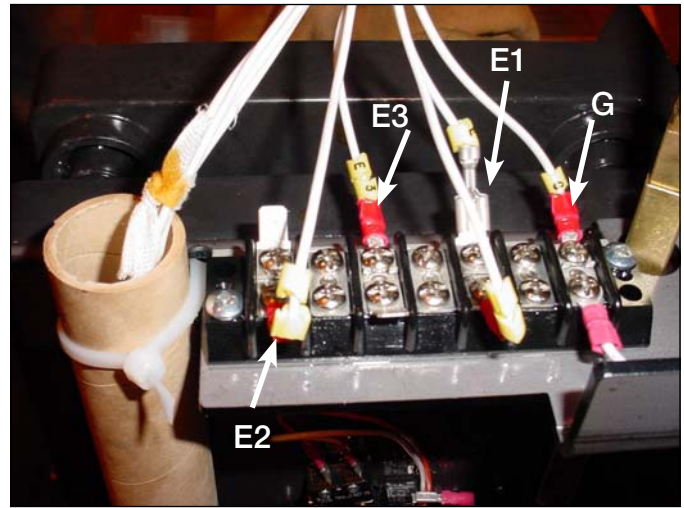

Figure 7.
- Use a Phillips head screwdriver and needle nose pliers to disconnect the white E control winding leads and P leads if available from the seven position terminal board located on the left top of the tap changer. See Figure 7.